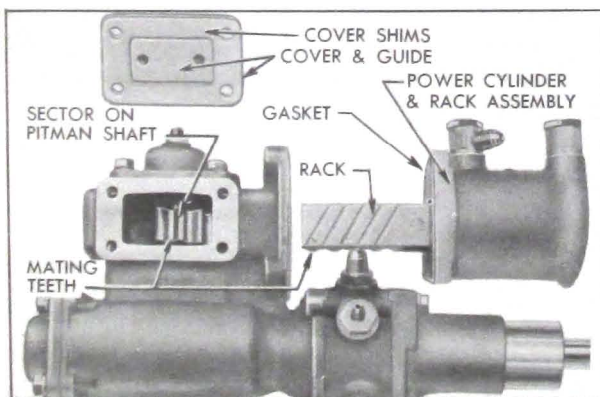

Figure 8-34—Position of Rack and Sector for Installation of Power Cylinder
25. Turn steering shaft clockwise to limit of travel. Push power rack in against stop plate in cylinder adapter. Install power cylinder and rack assembly on gear housing with a *new* gasket. The end tooth of rack must mesh between the two end teeth in pitman shaft sector. See figure 8-34.